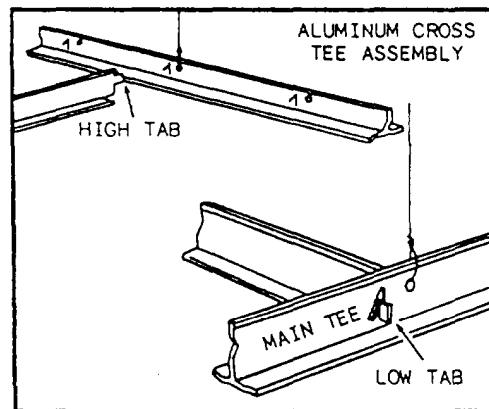

Figure 5-24.—Aluminum cross tee assembly.
**CROSS TEES.**— Aluminum cross tees have “high” and “low” tab ends that provide easy positive installation without tools. Installation begins by cutting border tees (when necessary) to fit between the first main tee and the wall angle. Cut off the high tab end and rest this end in the main tee slot. Repeat this procedure until all border tees are installed on one side of the room. Continue across the room, installing the remaining cross tees according to your grid pattern layout. An aluminum cross tee assembly is shown in figure 5-24. At the opposite wall angle, cut off the low tab of the border tee